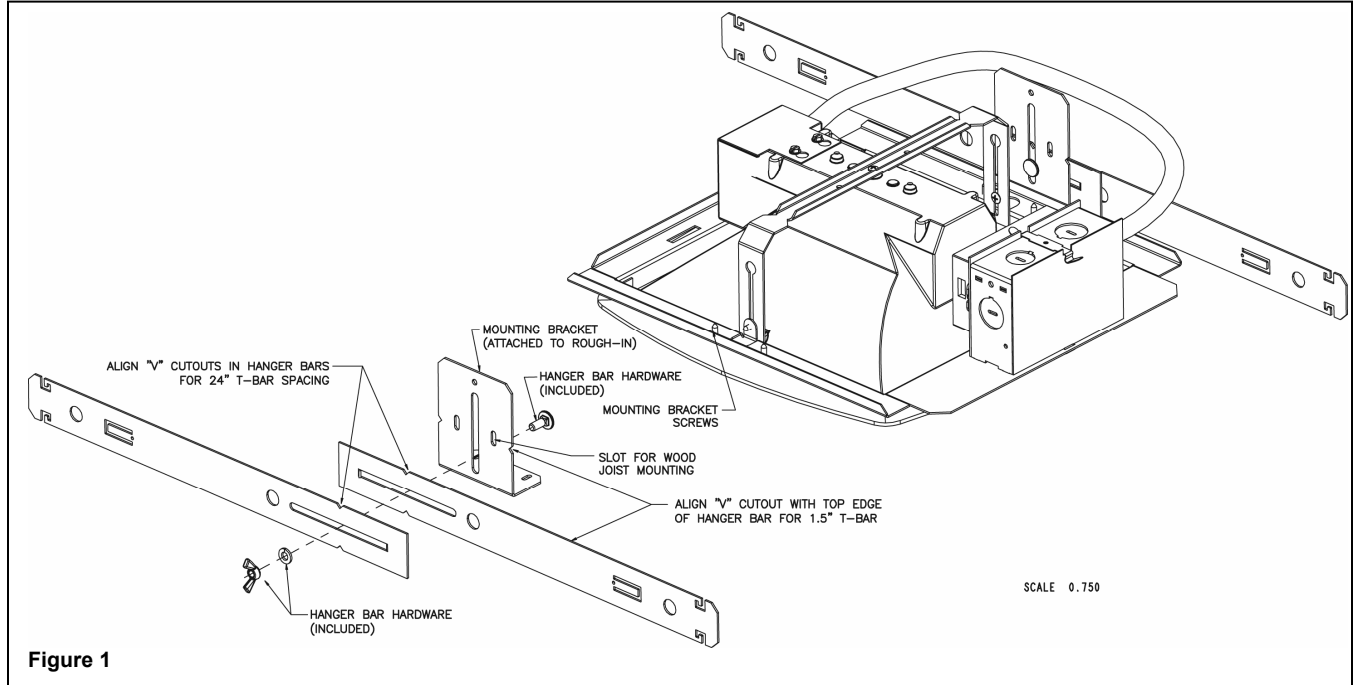

Figure 1
Wood Joist Installation: Using a Phillips Head screw driver, loosen the (4) mounting bracket screws. Extend the mounting brackets to fit between the joists. Mount securely to wood joists using nails or wood screws (not provided) through 1/2" long slots in mounting bracket brackets. Retighten the mounting bracket screws. (See Figure 1.)
1. Place (2) short hanger bars together so that the formed tabs slip into the slots to form one long rigid hanger bar. Aligning the "V" cutouts in the hanger bar will set the spacing for a 24" ceiling. Repeat this assembly for the opposite side of the fixture. (See Figure 1.)
2. Assemble the hanger bars to the mounting brackets with the supplied hardware with the wing nut facing away from the fixture for adjustment. Aligning the top edge of the hanger bar with the center of the "V" cutout in the mounting bracket will set the depth to fit a 1.5" ceiling T-bar. (See Figure 1.)
3. Adjust the hanger bars as needed and tighten the wing nuts to secure the spacing. (See Figure 1.)